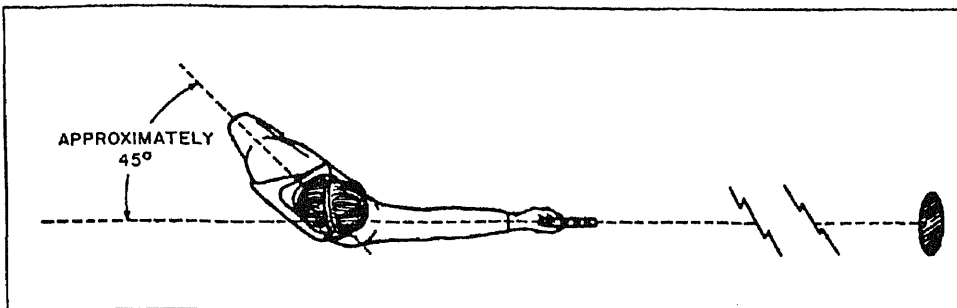

Figure 18-20.—Approximate position of body in relation to the line of sight.
**Stance.**—Stand in such a way that your body is at an angle of approximately 45 degrees from a line extending from your shoulder to the target (line of sight). (Refer to fig. 18-20.) Balance your weight equally on both legs and keep your feet 12 to 18 inches apart. Stand erect and hold your head up, but do not stand stiffly or try to pull in your abdomen. Your stance should be natural and comfortable so that you can point the pistol at the target easily and without strain. Your left hand can be placed wherever it seems most